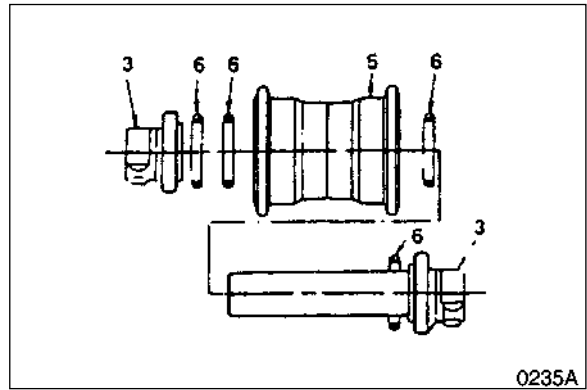

Figure 34
4. Detach O-rings (2, Figure 34) from the axle.
5. Separate group seals (6, Figure 34) from the collar and roller (5).
6. Detach collar (3, Figure 34) and O-rings (2) from the axle, using a press.